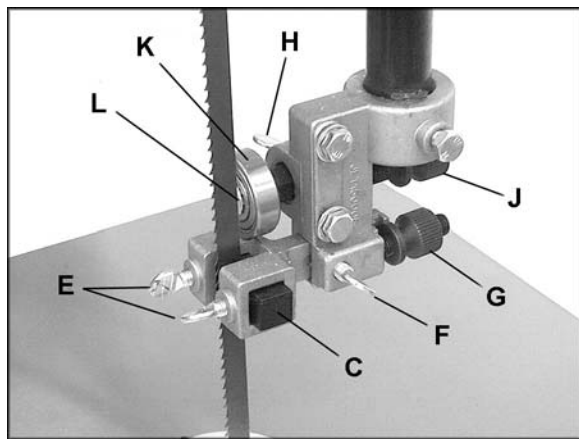

Figure 31
3. Loosen thumb screws (E, Figure 31) and move guide blocks (C, Figure 31) as close to the blade as possible without pinching it.
4. Tighten thumb screws (E, Figure 31).
5. Loosen thumb screw (F, Figure 31) and turn knurled knob (G, Figure 31) to move the guide block bracket in or out until the front
6. Tighten thumb screw (F, Figure 31).
7. The blade support bearing (K, Figure 31) should be adjusted so that the back edge of the blade overlaps the front face of the ball bearing approximately 1/8". To change position of the bearing, remove screw (L, Figure 31), and bearing (K, Figure 31). Loosen thumb screw (H, Figure 31) and back off knurled knob (J, Figure 31) completely to remove the bearing shaft.
8. Notice the bearing holder on the shaft is eccentric. Index the bearing shaft to another position and slide it back in, making sure the flange on the thumb screw (H, Figure 31) properly seats into the groove of the bearing shaft. Re-install the bearing and the screw. Examine the overlap between the bearing face and the blade. Change the position of the bearing shaft until the overlap is approximately 1/8".
9. With the thumb screw (H, Figure 31) still loosened, adjust the distance from bearing to blade. Turn knurled knob (J, Figure 31) to move the support bearing (K, Figure 31) in or out until the bearing is 1/64" behind the blade. (NOTE: To set this distance quickly, you can place a dollar bill or piece of paper between support bearing and back of blade.)
10. Tighten thumb screw (H, Figure 31).